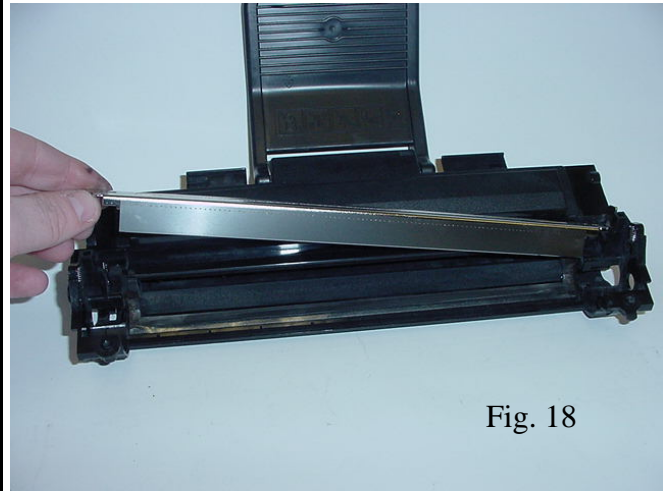

Fig. 18
18. Remove the doctor blade, clean thoroughly, and set to the side for reassembly (Fig. 18).